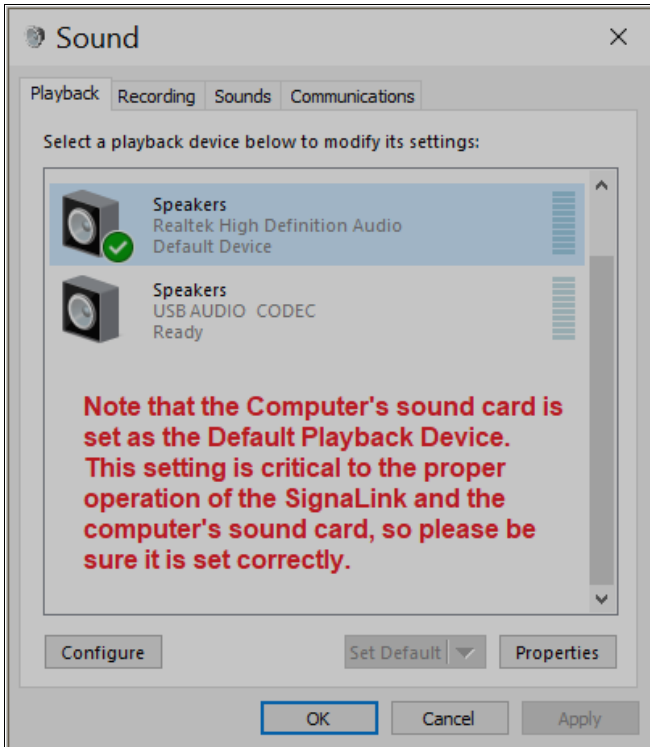

Figure 5 - Sound window Playback tab
- In the "Sound" window that opens, select the "Playback" tab as shown below in Figure 5.
- Your **computer's sound card** should now have a green check mark next to it as shown above in Figure 5 and it will be marked as "Default Device".